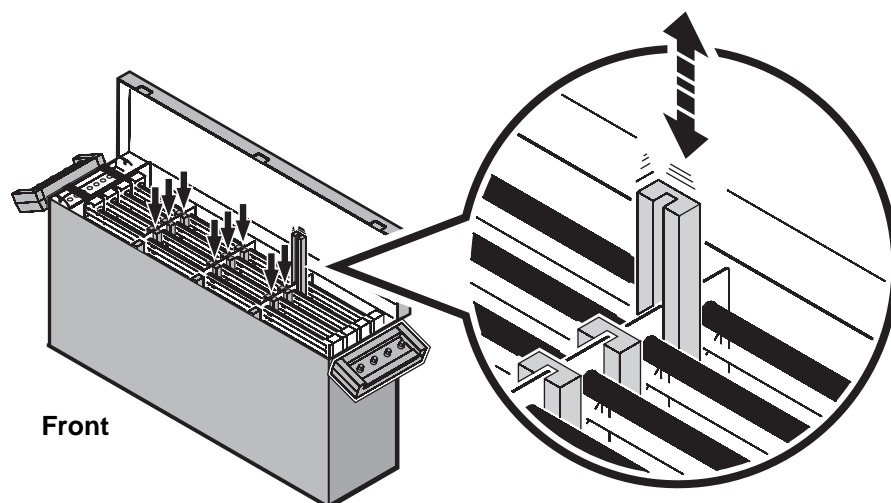

Figure 3: Protective strip orientation
2. Insert the protective strips supplied with the flightcase so that the channel in each strip faces the front of the flightcase and slides over the clear plastic brackets as shown in Figure 3.